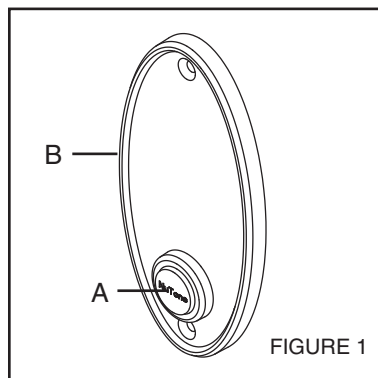

FIGURE 1
2. Make sure that push button assembly (A) is inserted fully into escutcheon (B). (Figure 1) Install chime and transformer wires to pushbutton terminals.